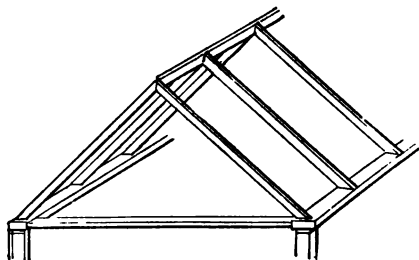

FIG. 121. — Roof trusses.
**114. Roof truss.** When a wooden house is built, the roof is usually supported by pairs of timbers set like an inverted V, as in figure 121. Each pair of timbers has to carry the weight of a section of the roof, and, in winter, of the snow and ice that accumulate on it. This weight is really distributed along the timbers, but it can be thought of as concentrated, half at the peak and half at the eaves, where it rests directly on the walls. The part of the load that is at the peak tends to “spread” the inverted V, and our problem is to find what has to be done to prevent this.